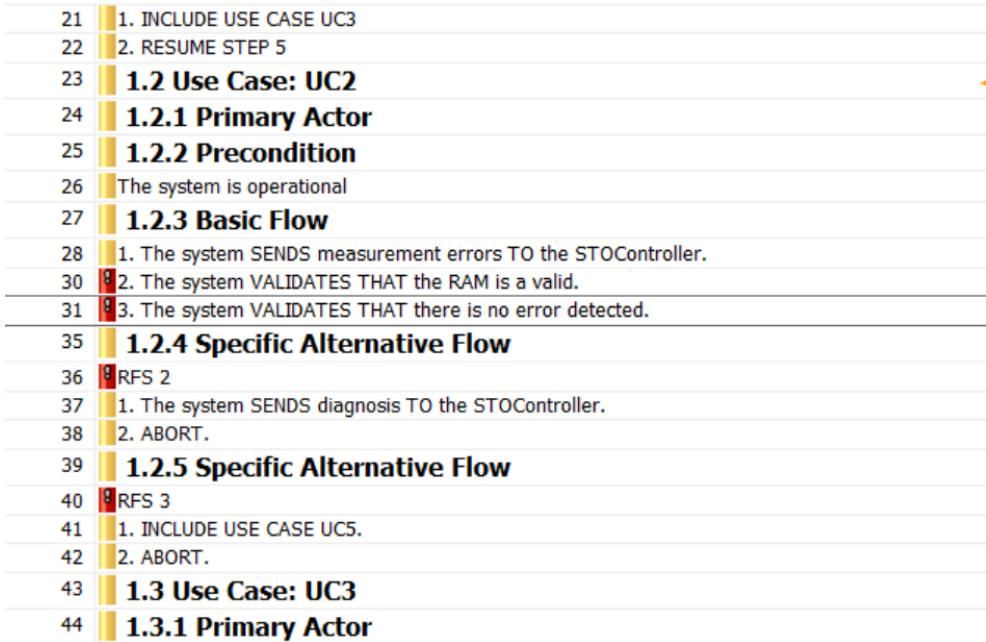

Figure 56: Window for the Incrementally Generated Specifications
After all the changes are calculated, the PS use case models are incrementally reconfigured. Only the parts affected by the changed decisions are automatically regenerated. (see Figure 56).
In Figure 56, the PS use case specification is incrementally reconfigured, i.e., the unselected optional step in UC2 is removed as well as the alternative flow referring to this step (2) the manually assigned trace link in the PS use case specifications is not deleted and not affected by the decisions change .